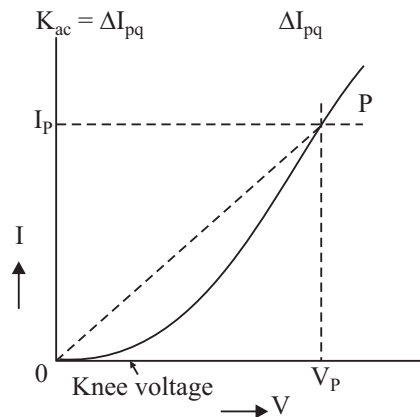

Fig. 26.3 : R_{dc} at $P = V_P/I_P$, which is the slope of line OP . It will have different values for different positions of P .
In this experiment we have to study, how the current varies with the applied voltage. Here, we shall see that the current remains zero till the applied voltage approaches contact PD called the 'knee' voltage. On increasing the applied voltage beyond this point, the current flowing through the diode increases rapidly. A graph plotted between 'V and I' is not a straight line as is seen in Fig. 26.3. It is called the characteristics of the diode. In such cases where the (V vs I) graph is not a straight line, we define two resistances. The static resistance or DC resistance and dynamic resistance or AC resistance. If we take a point P on the curve and note the applied voltage V_p and current I_p corresponding to this point, then the static resistance or R_{dc} at point P is defined as
- (vi) Now plot a graph from these readings, which will look like the one given in Fig. 26.3.